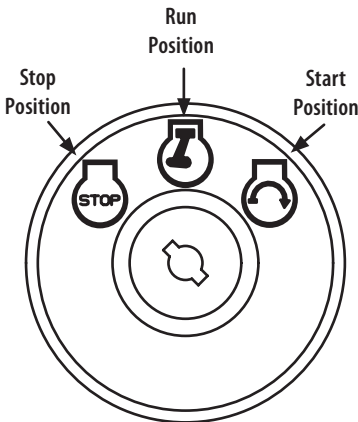

Figure 4
5. Turn the ignition key clockwise to the START  position and allow engine to crank up to five seconds of each crank trial until started. After the engine starts, release the key. It will return to the RUN  position (Figure 4).